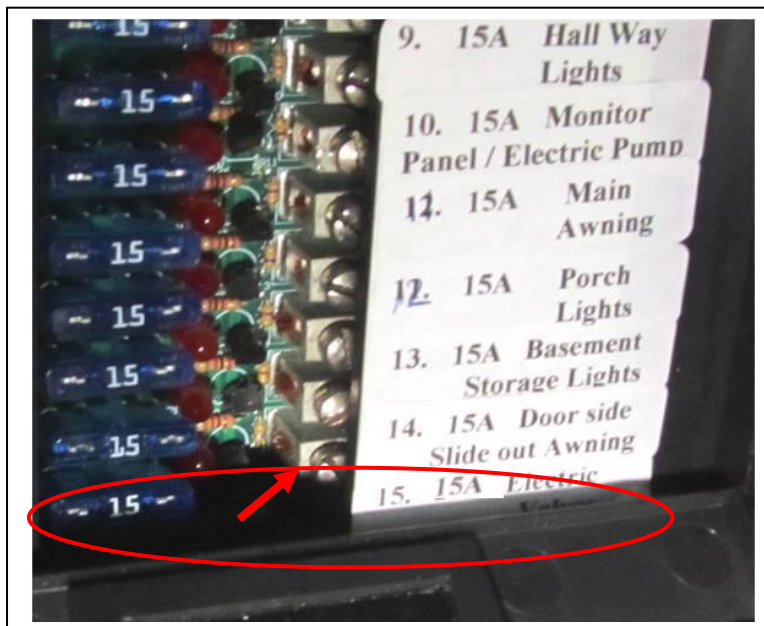
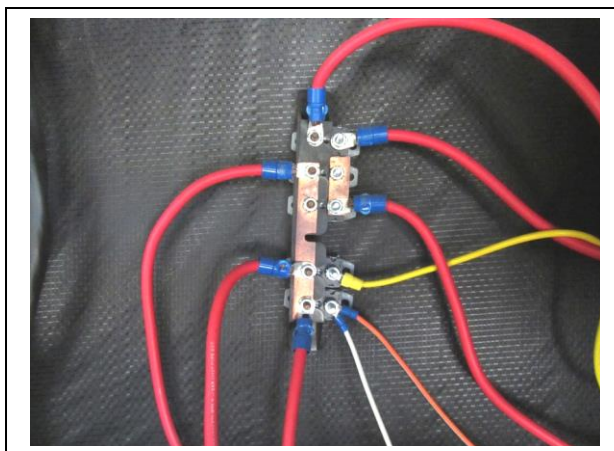
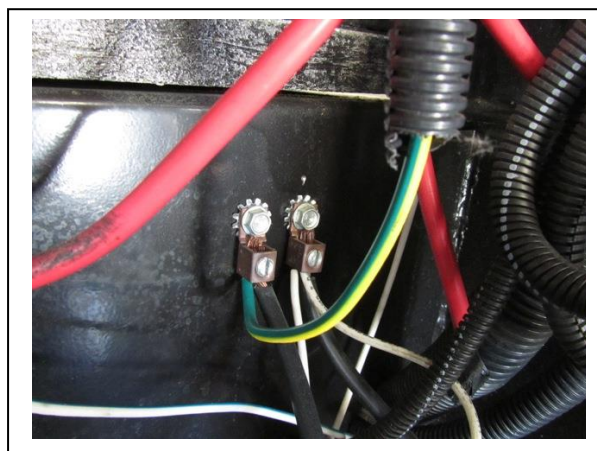

Fig. 14 (Example) – Arrow shows the spare slot assigned to Electric valves
Fig.15. Tie to + 12V Bus Bar connected to battery +ve terminal
Fig. 16 Tie to Ground lug (-12V) connected to battery -ve terminal
- **12 V supply source:** **Fig. 14** Use a spare fused slot on the RV DC distribution panel if available to provide the +12 V supply line. Label the slot 'Electric Valves'. Ground (-ve12V) can be connected as shown below in **Fig. 16** or directly to the battery.
- If a spare slot is not available connect directly to 12 battery terminals. A distribution bus bar and grounding lugs with direct connections to the battery terminals are convenient to obtain the +12 V (**Fig. 15**) and Ground (-12V) (**Fig. 16**) connections.